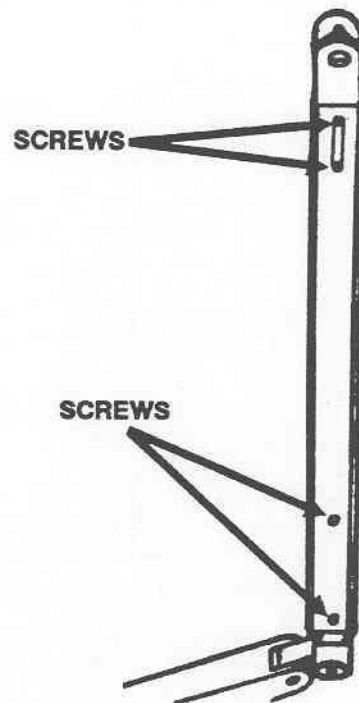

Figure 3-17. Arm disassembly.
- (11) Remove the four screws from the underside of the arm (fig 3-17).